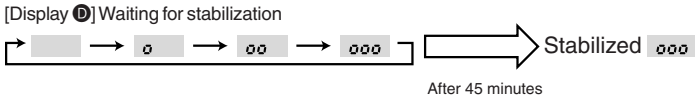

Fig. 8-3
③ Press **FILTER** (←) button to confirm. (Fig. 8-3)
- ④ Press **TEST** button for more than three seconds to cancel the initial learning. The initial learning can also be cancelled by pressing **ON/OFF** button.